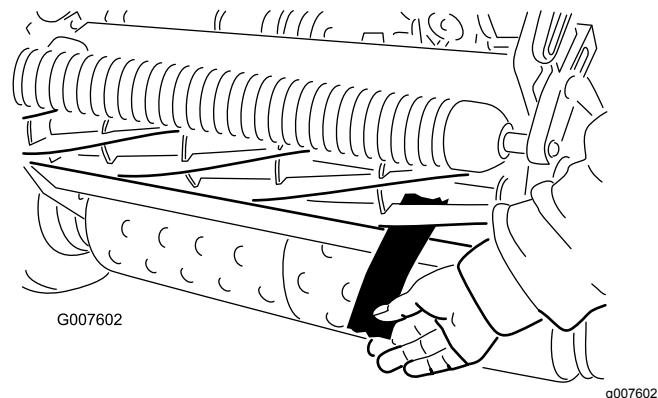

Figure 53
12. Test the cutting performance by inserting a long strip of cutting performance paper between the reel and bedknife, perpendicular to the bedknife (Figure 53). Slowly rotate the reel forward; it should cut the paper.